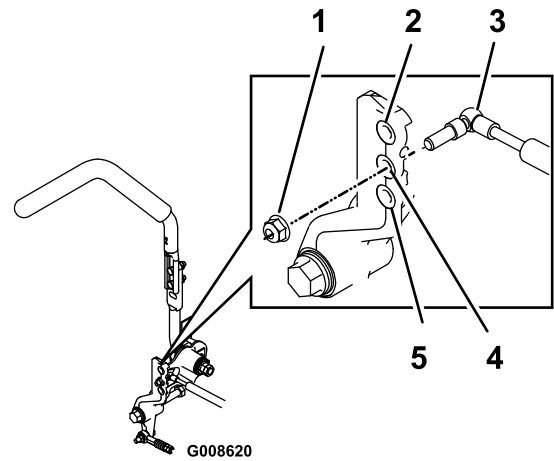

Figure 62
1. Bolt (4)
3. Remove the locknut, move the damper-mounting bolt to the desired position, and install the locknut. Refer to Figure 62 for the mounting options.